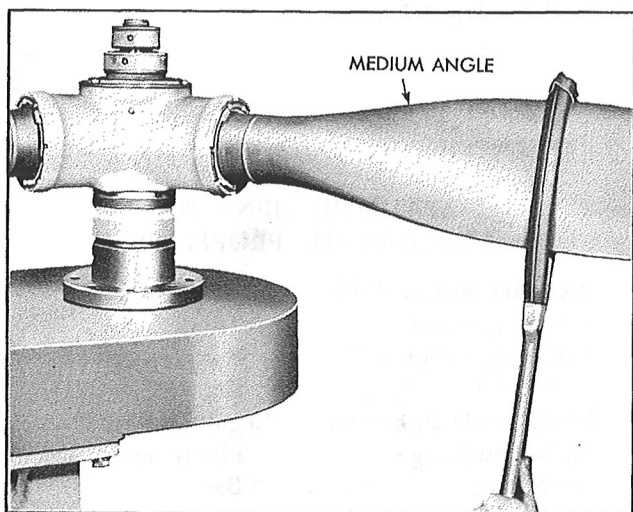

Figure 215—Turn Blades to Medium Angle
*Step 3.*—Remove the torque units. See Section VI 2d (2).
*Step 4.*—Remove the master gear. See Section VI 2c (2).
*Step 5.*—Remove the shaft nut and front cone. See Section VI 2c (2).
*Step 10.*—Set the blades at their mid-point between minimum and maximum blade angles. See Figure 215.